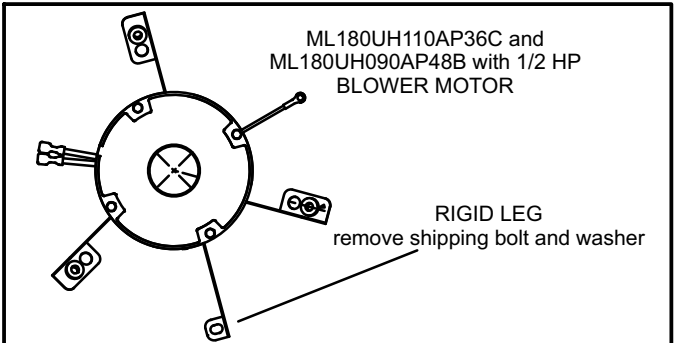

FIGURE 5
*NOTE - Units with 1/2 hp blower motors (ML180UH110AP36C and ML180UH090AP48B) are equipped with three flexible legs and one rigid leg. See figure 5. The rigid leg is equipped with a shipping bolt and a flat white plastic washer (rather than the rubber mounting grommet used with a flexible mounting leg). **The bolt and washer must be removed before the furnace is placed into operation.** After the bolt and washer have been removed, the rigid leg will not touch the blower housing.*